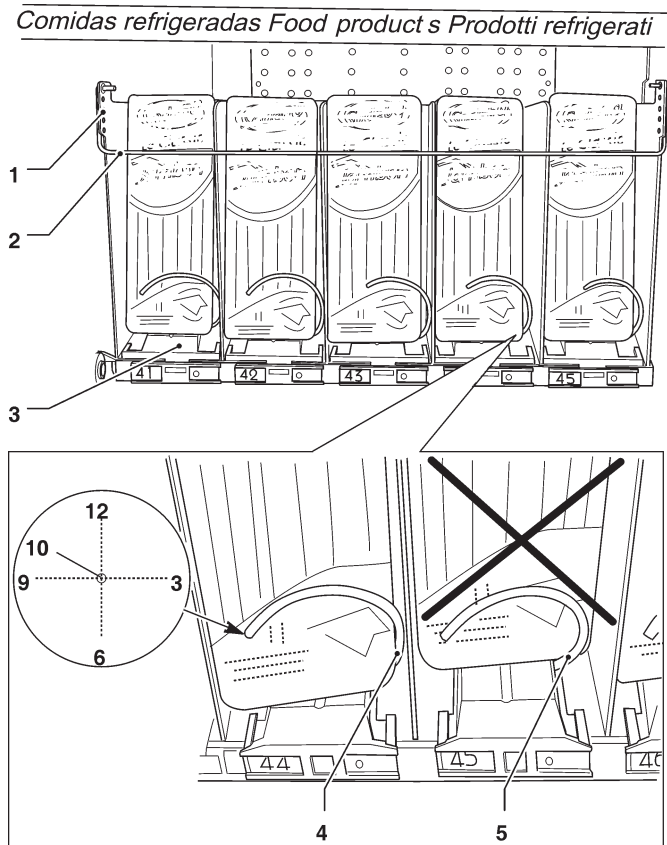

Fig. 15
**Sandwiches shall be loaded in the tray that can be recognised by the retainer bridge (see fig. 15)**